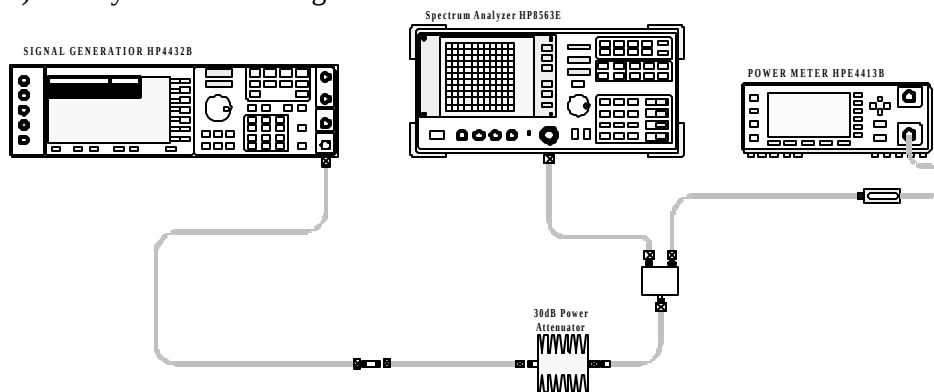

Figure 2 Spectrum Analyzer Calibration Configuration for Forward Link
- 6) Set System as follow Figure 2.